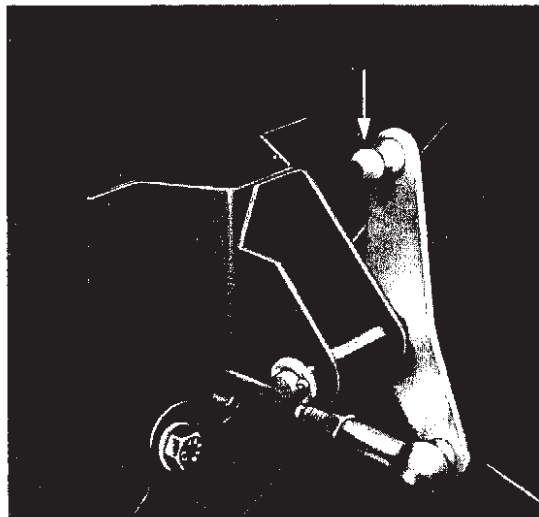

Fig. 29
7. Detach ball pan from ball joint (see Fig. 29).